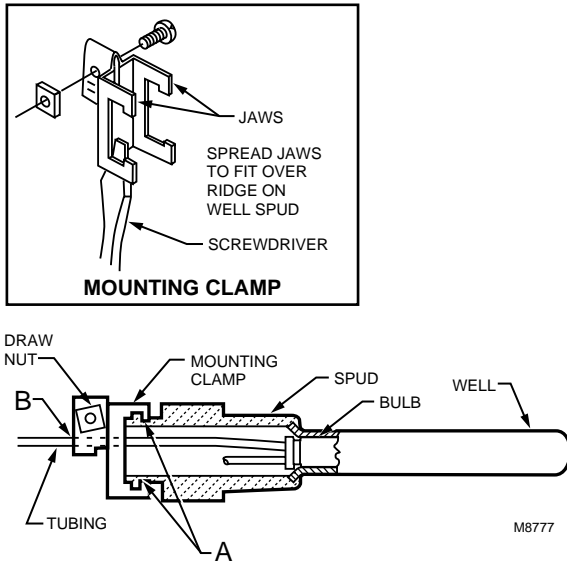
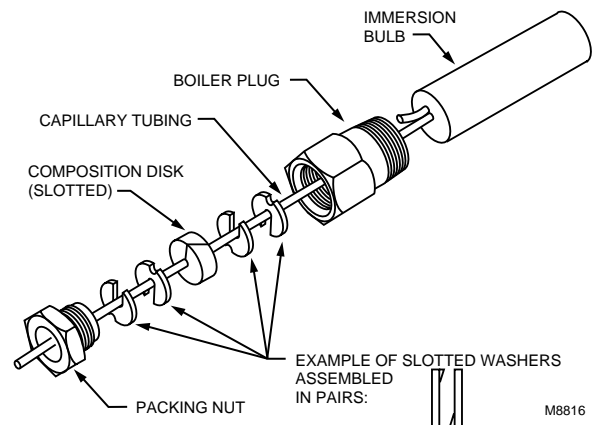

Fig. 8. Immersion well fitting.
Fig. 11. Capillary compression fitting. Use with L4008.
The remote temperature-sensing bulb can either be installed in an immersion well (Fig. 8) that extends into the boiler or tank, or it can be directly immersed in the controlled medium. See Fig. 9. For installations that do not use a well, secure the remote bulb with a bulb compression fitting (Fig. 10), or capillary compression fitting (Fig. 11).
Order well, well adapter, bulb compression fitting or capillary compression fitting separately. See form 68-0040, Wells and Fittings for Temperature Controllers. If used, well must snugly fit sensing bulb for the best thermal response. Insert bulb until it rests against the bottom of the well. Hold it there while tightening the tubing clamp. See Fig. 8.
3. Attach the retainer clamp to the end of the well spud. Loosen the draw nut and spread the jaws of the clamp with the screwdriver if necessary. See Fig. 8.
4. With the retainer clamp attached to the well spud (be sure the jaws of the clamp hook over the ridge at the end of the spud, as shown at points A in Fig. 8), adjust the tubing to fit through the retainer clamp groove, as shown at point B (Fig. 8).
4. Place the composition disk and four slotted brass washers on the tubing in the order shown in Fig. 11. Turn the brass washers so the slots are 180 degrees apart.